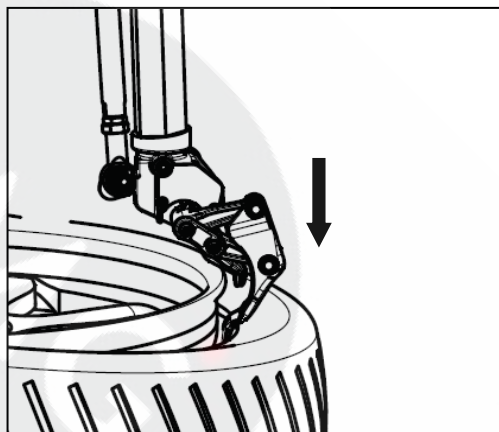

FIG29
- Pull down the control valve (FIG3-22) of demounting hook to make the demounting hook enter the inner side of tire lip. If the demounting hook does not insert into the inside of tire lip when down to the bottom, step the rotation pedal to rotate the turntable a little to make the hook insert into the inside of tire lip like the FIG29. If the tire lip is harder, use the press plate of assist arm to press down the tire lip so that the hook can insert into the inside of tire lip smoothly.